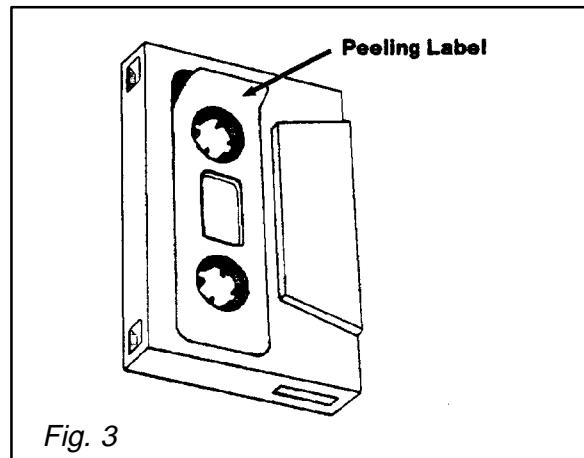

Fig. 3
6. Avoid inserting a cassette into the player if the cassette label is loose or peeling as shown in figure 3. This can cause a cassette to become stuck in the player.